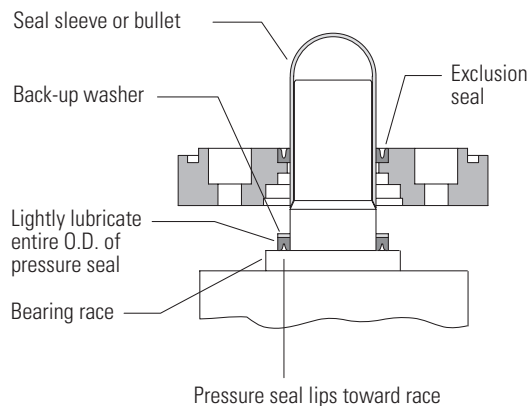

Figure 22
40. Install pressure seal flush against bearing race, see Fig. 22.